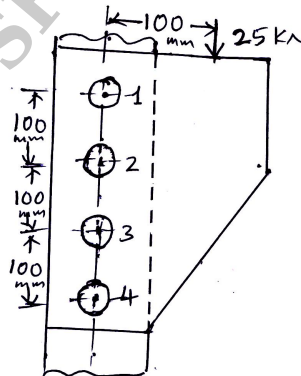

Fig.Q7(b)
- b. A bracket attached to a vertical column by means of four identical rivets, is subjected to an eccentric force of 25 kN as shown in Fig.Q7(b). Determine the diameter of rivets, if the permissible shear stress is  $60 \text{ N/mm}^2$ .